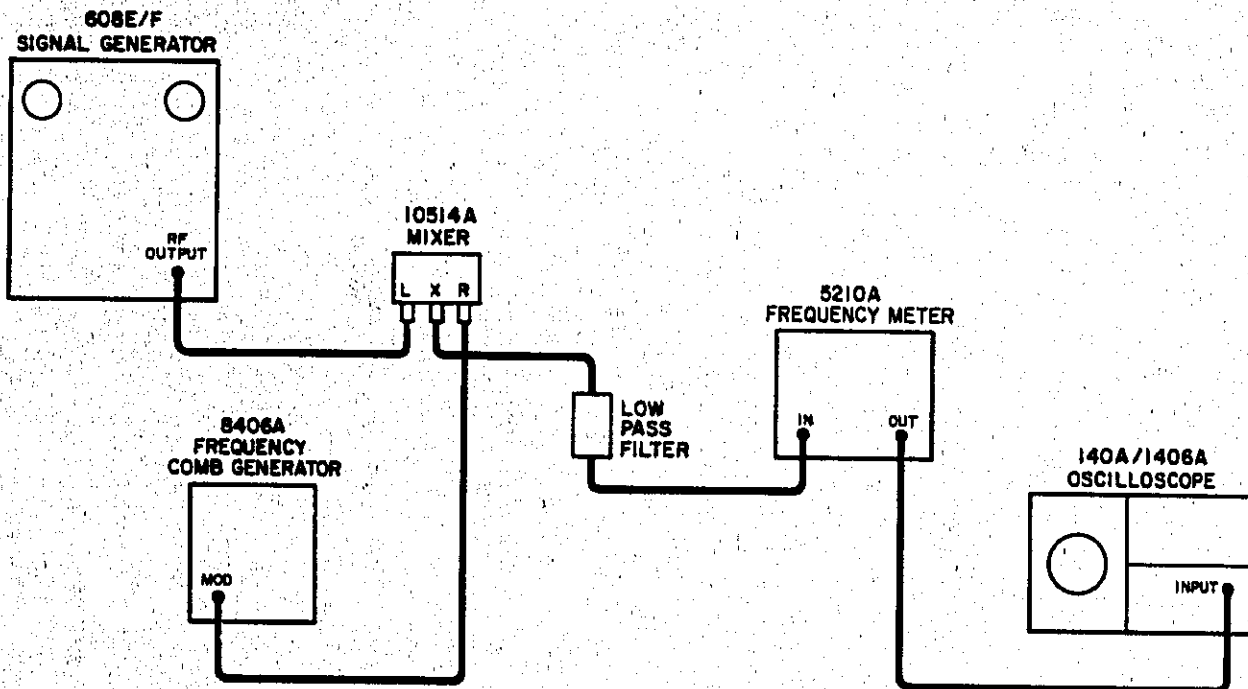

Figure 5-4. Residual and Incidental FM Test Setup
- a. Connect signal generator in test setup illustrated in Figure 5-4.
- Connect signal generator in test setup illustrated in Figure 5-4.